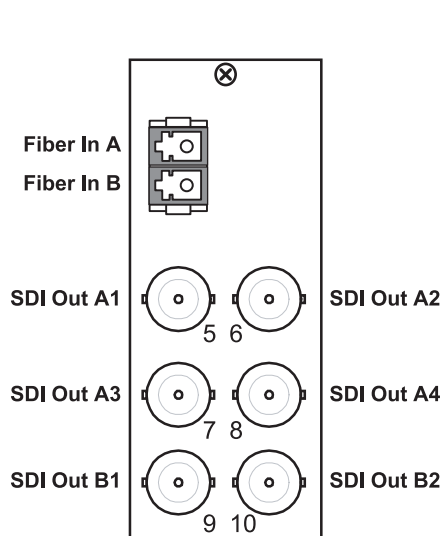

Figure 2.4 Cable Connections for the 8320AR-044 Rear Module
- **8320AR-044** Full Rear Module (R2-6603) — Each card occupies two slots and provides two optical inputs, and six SDI outputs. Refer to **Figure 2.4**.